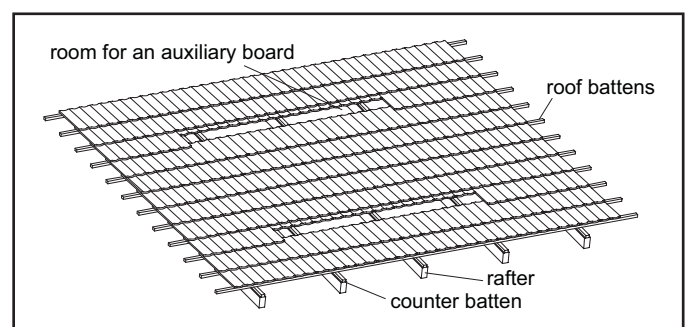

Fig. 4: Remove roof tiles to fix the board
- Remove roofing so that auxiliary boards can be inserted (approx. distance between boards 830 mm). For roof tiles, just shifting them upwards in the length of the auxiliary board is sufficient (see Fig. 4).